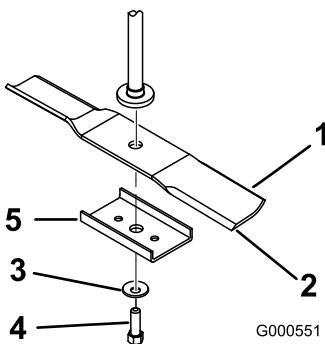

Figure 44
Hold the blade end using a rag or thickly-padded glove. Remove the blade bolt, curved washer, blade stiffener, and blade from the spindle shaft (Figure 44).
1. Install the blade onto the spindle shaft (Figure 44).
2. Install the blade stiffener, the curved washer (cupped side toward the blade) and the blade bolt (Figure 44).